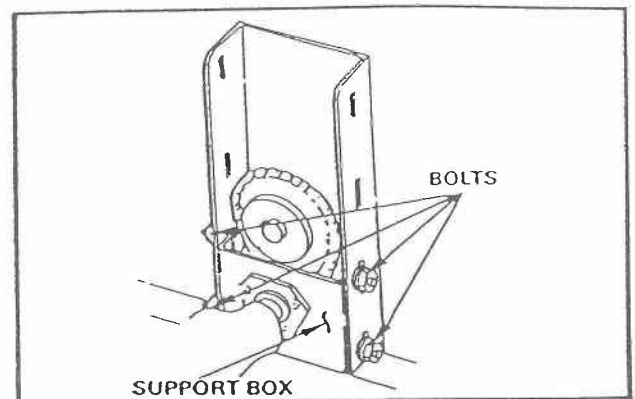
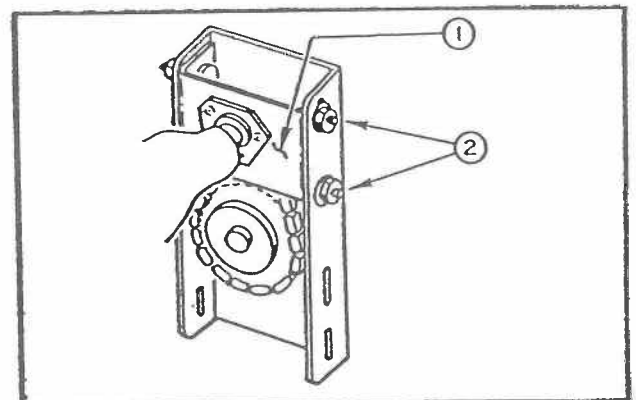

FIGURE 4
FIGURE 5
- a) Relocate support box, by removing the four bolts (fig.4) holding support box to snowblower fan housing. Take roller chain off large sprocket and move support box to upper position (fig.5, item 1).
- b) Install roller chain on large sprocket and install the four bolts (fig.5, item 2) with heads on inside, loosely. Adjust chain tension to 1/4" deflection in longest chain span and tighten the four bolts securely.